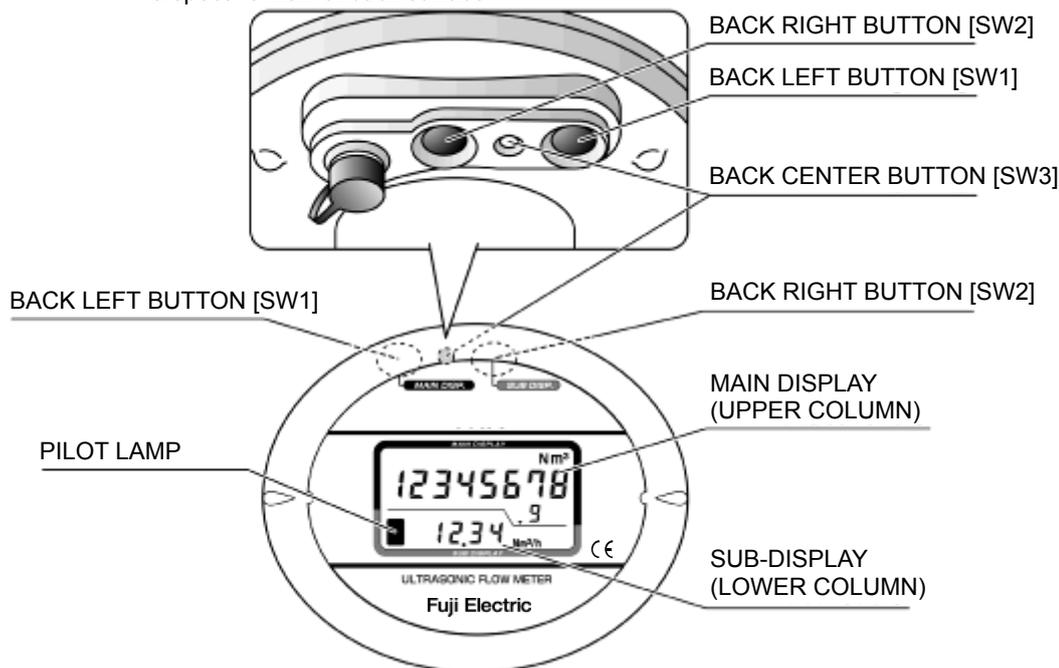

Fig. 4-1 Description of each operation part and display section
- 3) See Fig. 4-1 about the arrangement of “SW1”, “SW2” and “SW3.”